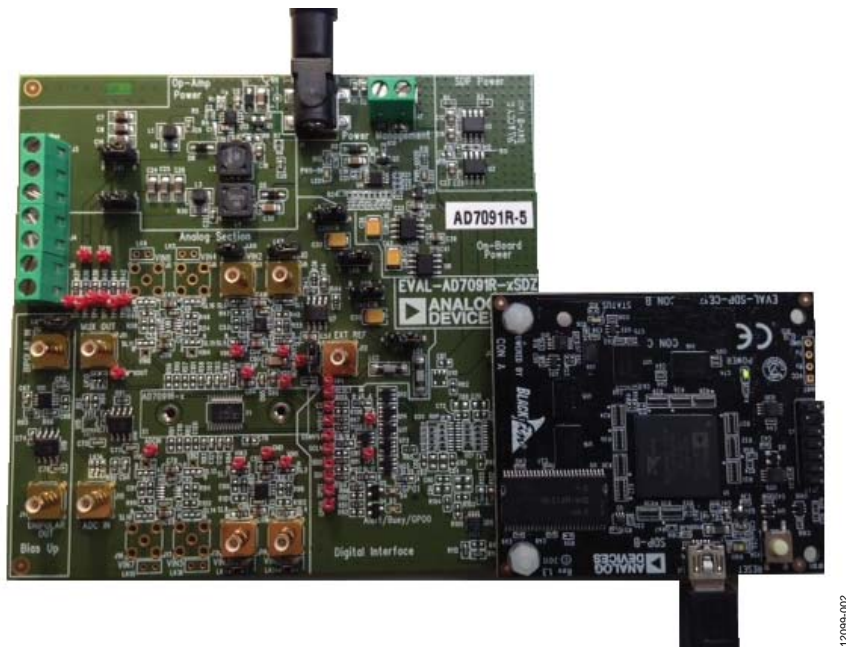

Figure 2. Evaluation Board (Left) Connected to the SDP Board (Right)
3. Connect the EVAL-SDP-CB1Z board to the evaluation board as shown in Figure 2. Screw the two boards together using the enclosed nylon screw/nut set to ensure that the boards connect firmly together.
Figure 2 shows a photograph of the connections between the EVAL-AD7091R-5SDZ daughter board and the EVAL-SDP-CB1Z board.